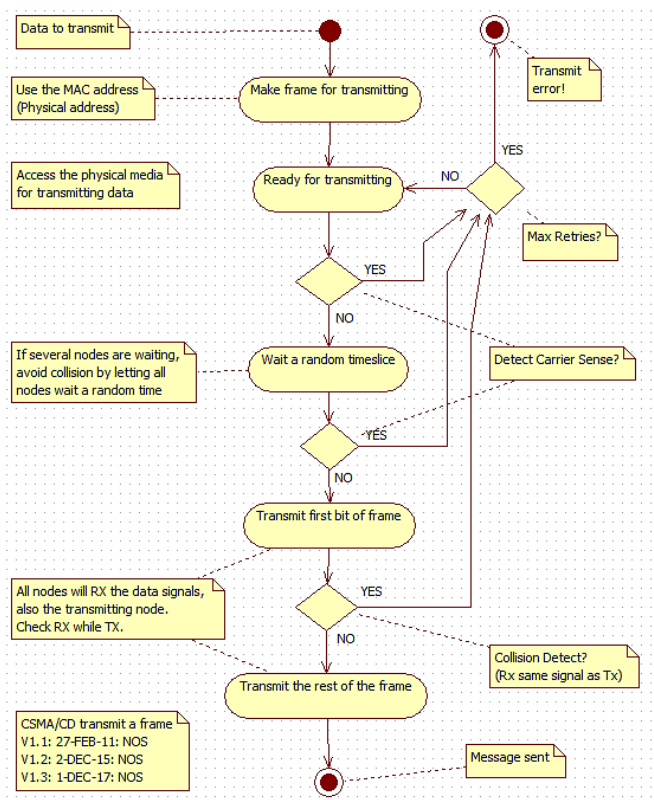

Figure 2: An activity diagram explaining the CSMA/CD protocol (Skeie n.d.a).
TCP/IP is a communication protocol used for Internet and many Intranets. TCP/IP is often using Carrier Sense Multiple Access and Collision Detect (CSMA/CD) as the Ethernet protocol. Figure 2 shows an activity diagram for the CSMA/CD protocol.
8. (2%) Use Figure 2 to indicate the error situations for the CSMA/CD protocol, and suggest any solution(s) to minimize the probability for a transmission error.